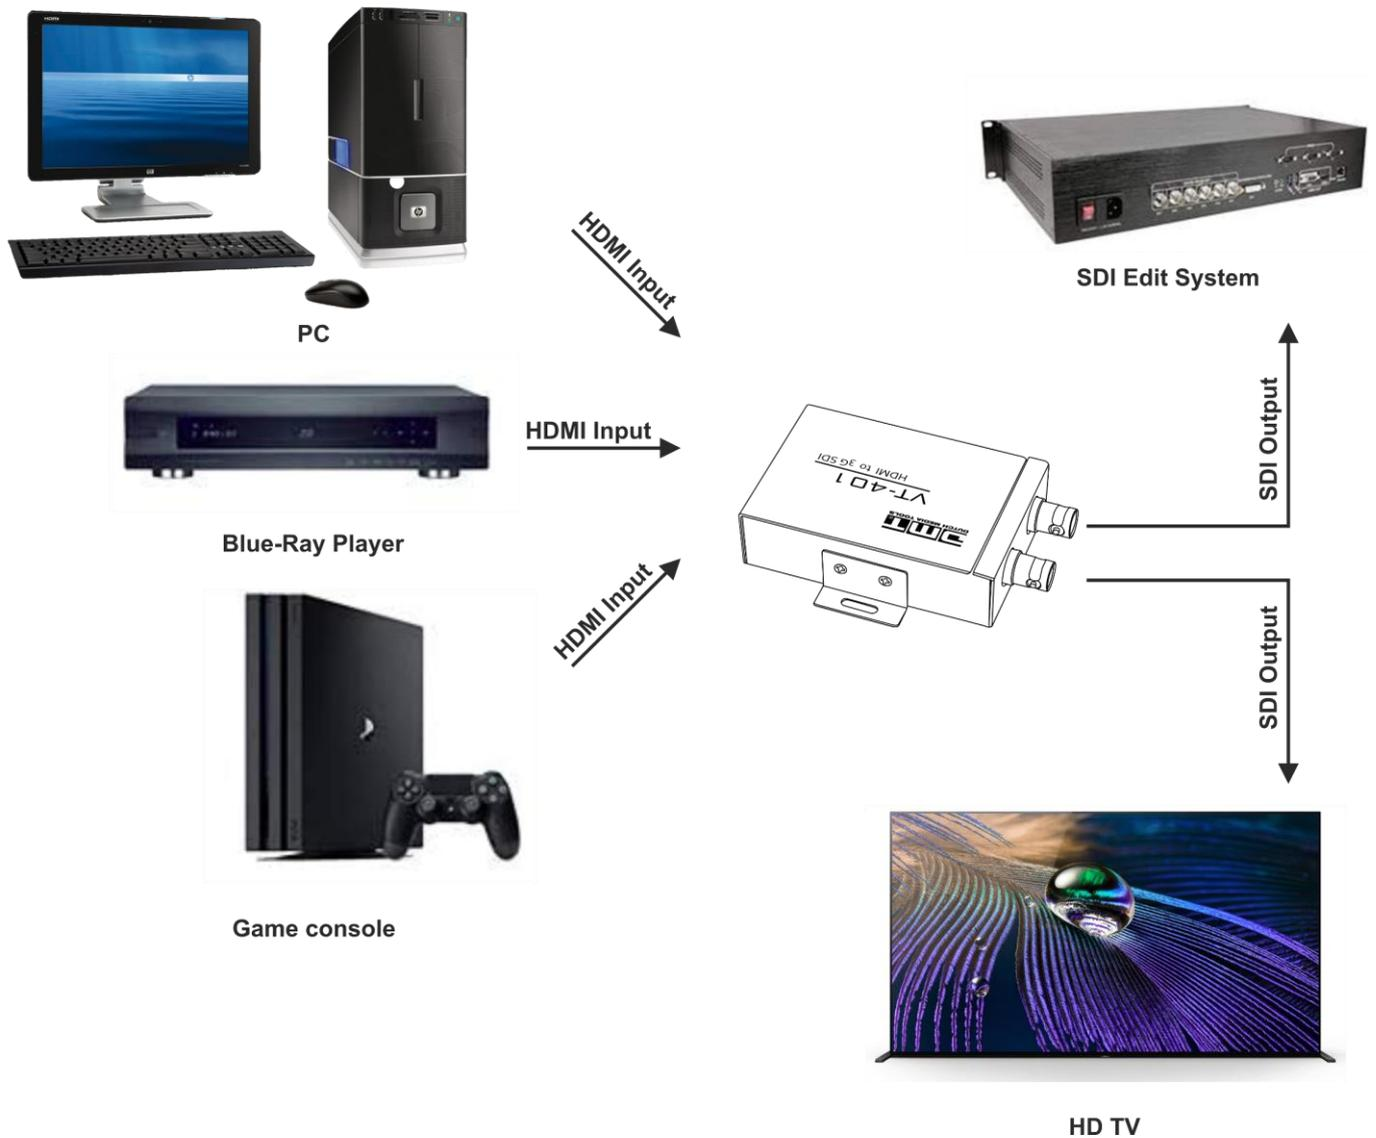

Fig. 06
- 02) Connect an HDMI source device (PC, game console or media player) to the **HDMI signal connector IN (01)**. See Fig. 06 on page 9.
- 04) Connect display devices (TV or an SDI device) to the **2 x BNC SDI video signal connectors OUT (05)**. See Fig. 06 on page 9.
- 05) Connect the device to the power supply. See **4.4. Connecting to Power Supply** on page 10. The **power LED indicator (Red) (03)** will turn on.